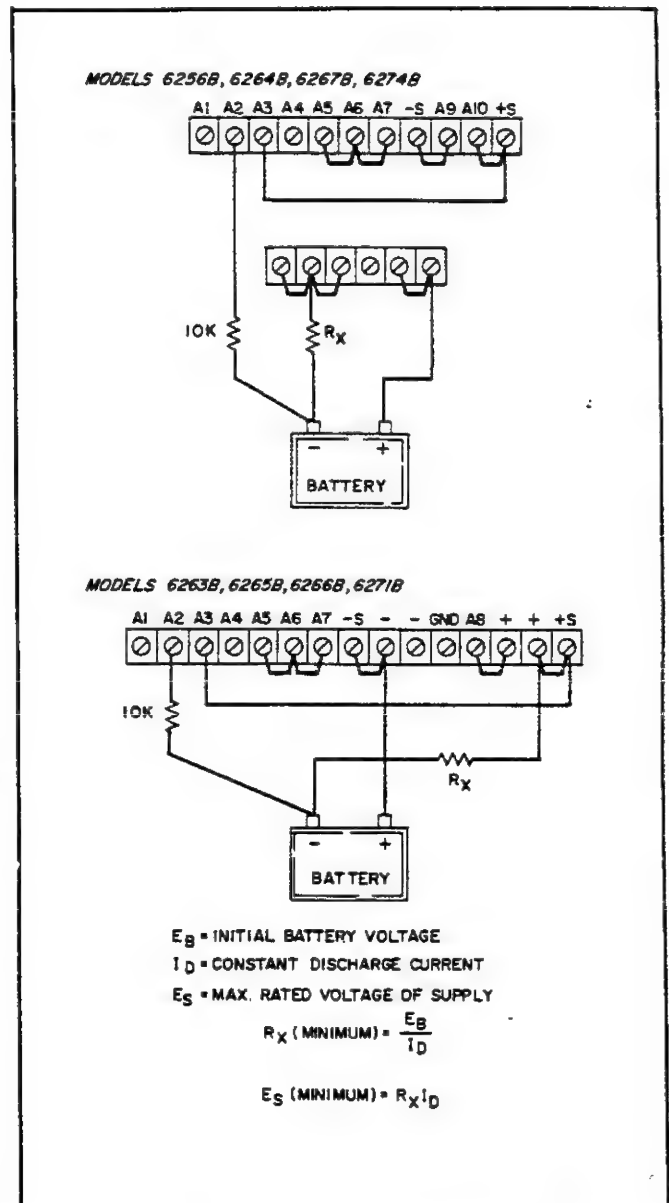

Figure 3-15. Battery Discharging
3-84 These power supplies are also useful when batteries must be discharged at a constant current in order to test them. Connecting a supply as shown in Figure 3-15 and following the instructions below makes an unattended constant-current discharge possible by automatically shutting off the output of the supply when the battery voltage reaches zero.
3-85 The supply operates in the constant-current mode, delivering the current set by the current control. This constant current flowing through dropping resistor R_X produces a constant voltage across the resistor. Initially, the battery voltage is high and the supply's output voltage is low, but as the battery voltage decreases during discharge, the supply voltage increases. When the battery voltage reaches zero, the supply senses this through the connection to its (A2) terminal and reduces the output current to zero. As shown in Figure 3-15, R_X must be selected so that its IR drop is less than the maximum rated output voltage of the supply, but greater than the initial battery voltage.
b. Connect terminal (A3) to (+S) and leave all other jumpers connected as for normal operation as shown in Figure 3-15.